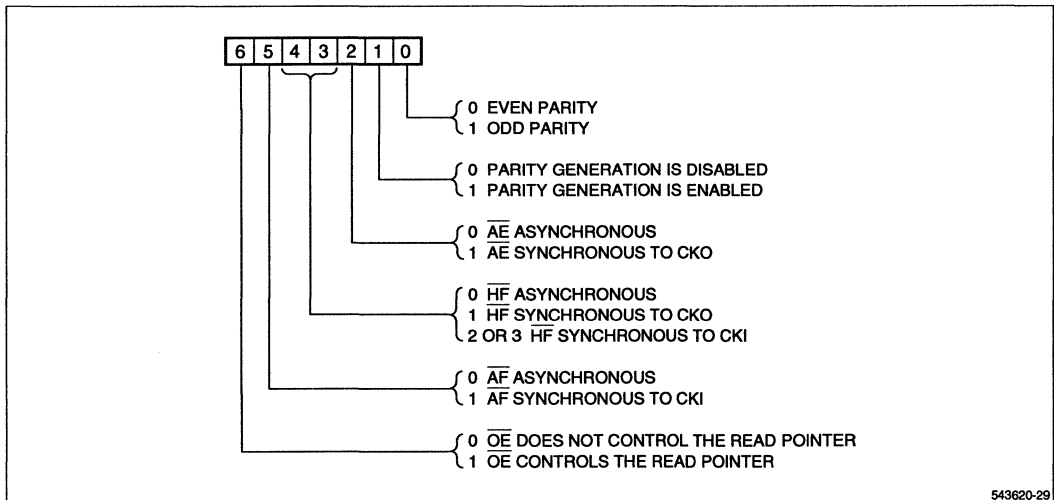

Figure 7. LH543620 Control Register
**Control Register (See Figure 7)**